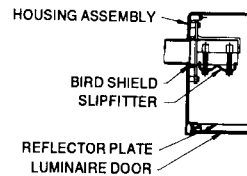

Figure 4
- Adjust, if necessary, four (4) pipe clamp bolts so that slipfitter opening is slightly larger than pipe size being used (See Figure 4).